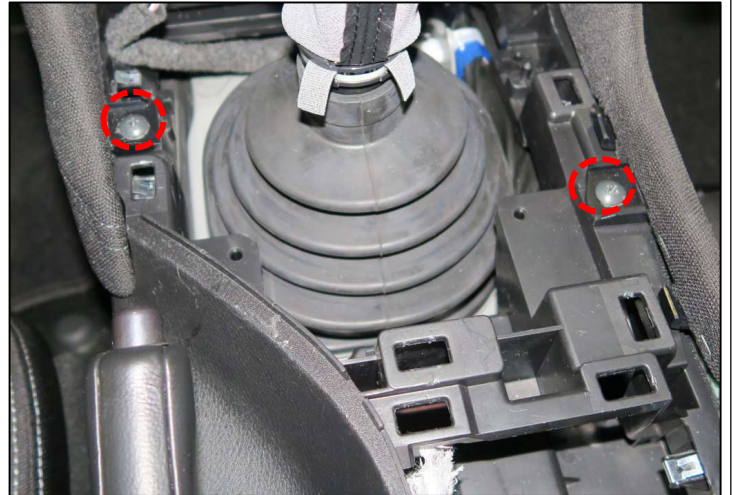

Figure 13
12. Remove the (2) screws from the console side finishers shown in Figure 13.